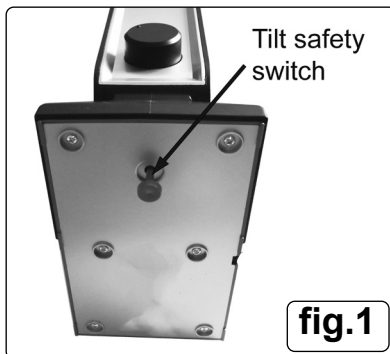

fig.1
- 4.9. **SAFETY CUT-OUTS** The heater is fitted with a thermostatic cut-out which will automatically turn the heater off should it exceed the set value. Should this happen, switch the heater off and disconnect it from the mains. Allow the heater to cool before handling. In the event of the heater being knocked over or raised from the ground, the safety tilt switch (fig.1), will disable the heater.